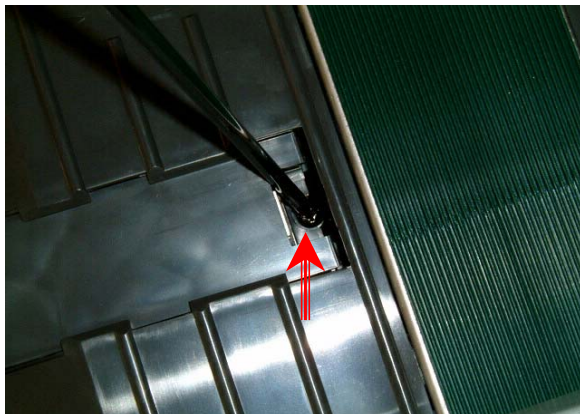

Fig.14
- slide the letter guide out to the last mark, then pull out, and then remove the Philips screw. (Fig.14)